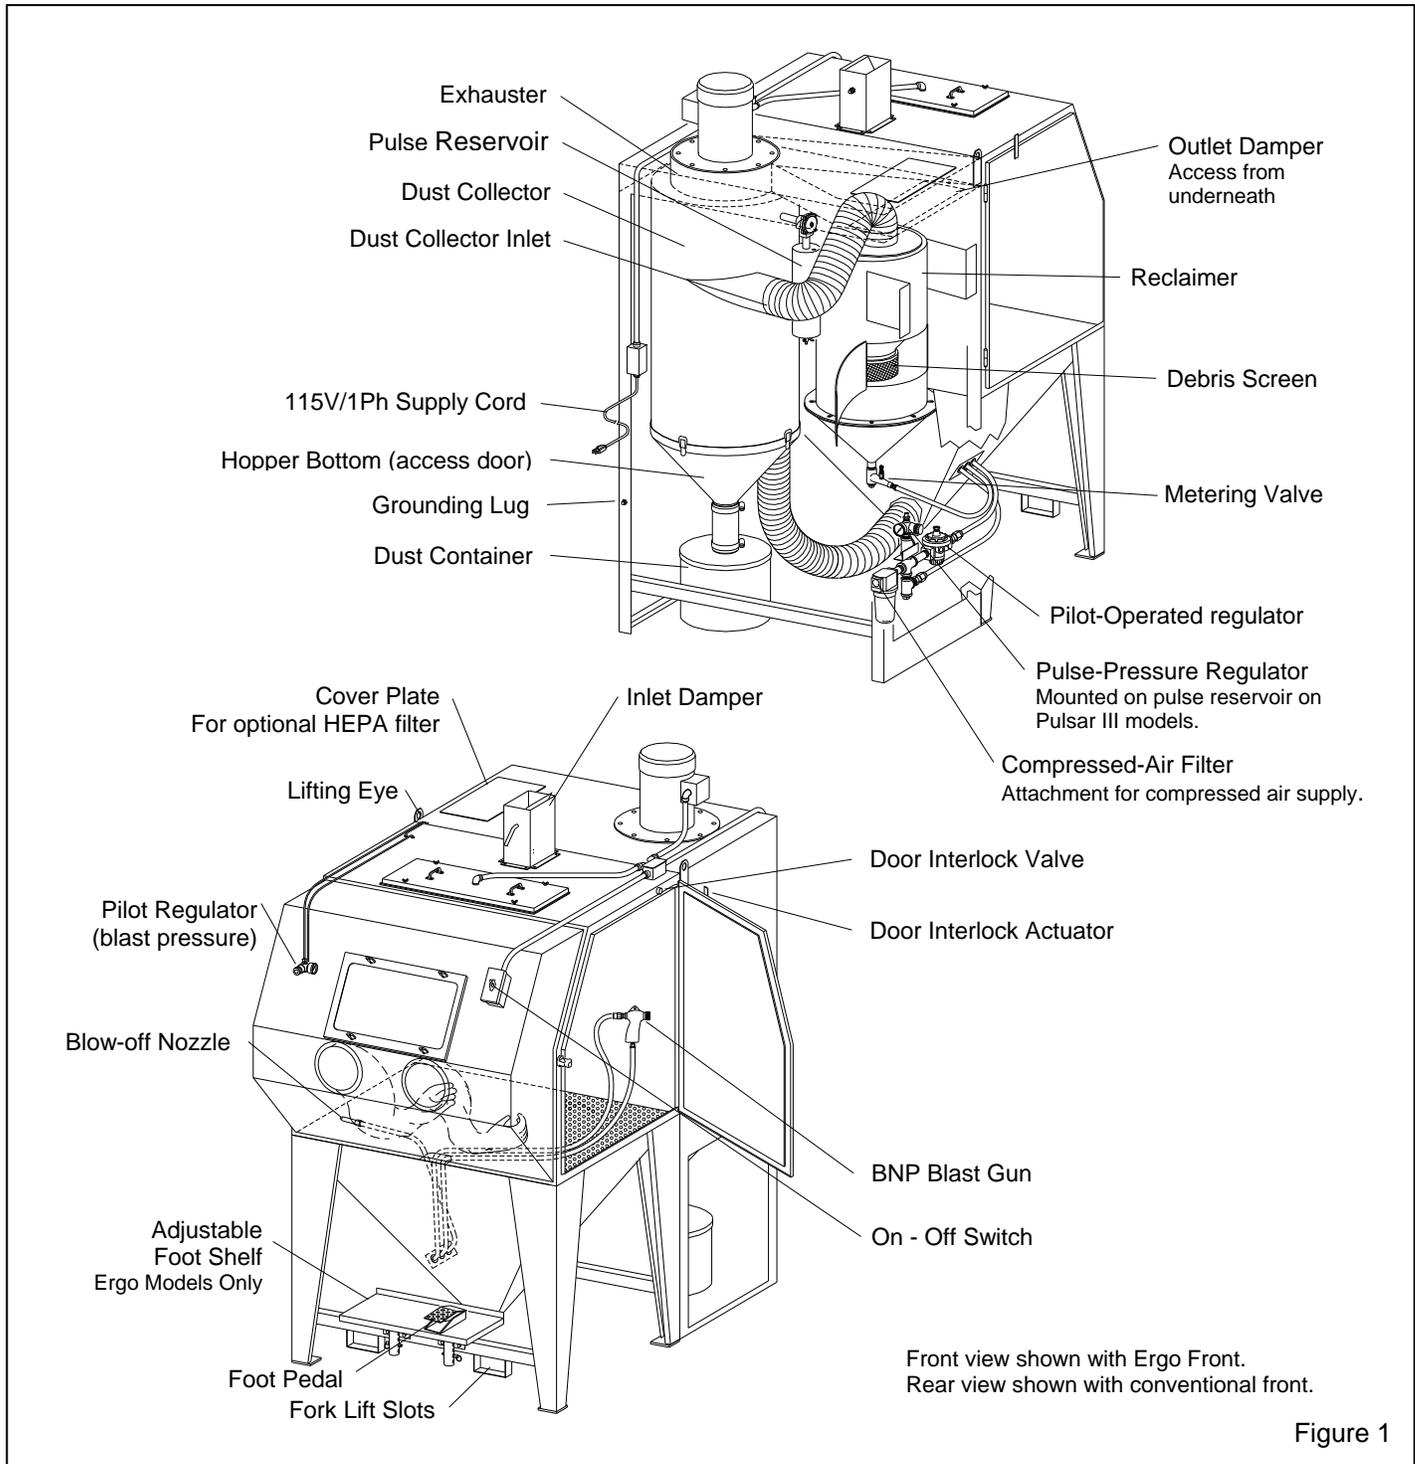

Figure 1
1.3.1 Refer to Figure 1 for arrangement of components. The Pulsar cabinet encloses the blasting environment to provide efficient blasting while maintaining a clean surrounding work area. Production rates are influenced by size of air jet and nozzle, compressor output, working pressure, type and size of media, and angle and distance of the nozzle from the blast surface. All Pulsar suction cabinets consist of two major components.
2.2.1 Install an air fitting that is compatible with the air supply hose fitting, to the compressed-air filter located on the inside wall of the power module, shown in Figure 1. Refer to Paragraph 2.2.2.